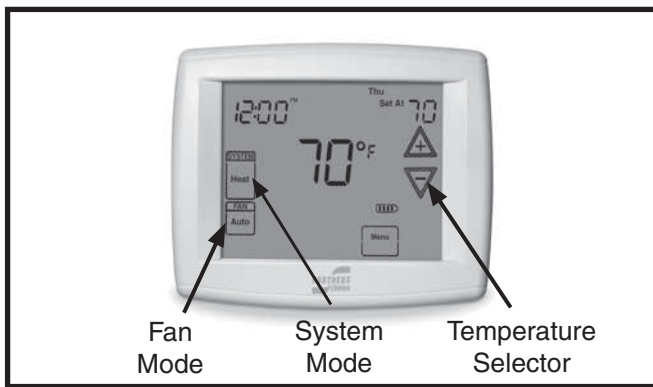

Figure 1. Digital Thermostat
1. Set the thermostat system mode to COOL and the thermostat fan mode to AUTO. See Figure 1.
1. Set the thermostat system mode to Heat and the thermostat fan mode to AUTO. See Figure 1.
Set the thermostat system mode to OFF and the thermostat fan mode to AUTO. See Figure 1. **NOTE:** The system will not operate, regardless of the thermostat temperature selector's setting.
Set the thermostat fan mode to ON (or CONT on some thermostat models). See Figure 1.
1. Set the thermostat system mode to COOL and the thermostat fan mode to AUTO (See Figure 1, page 3).
1. Set the thermostat system mode to Heat and the thermostat fan mode to AUTO (See Figure 1).